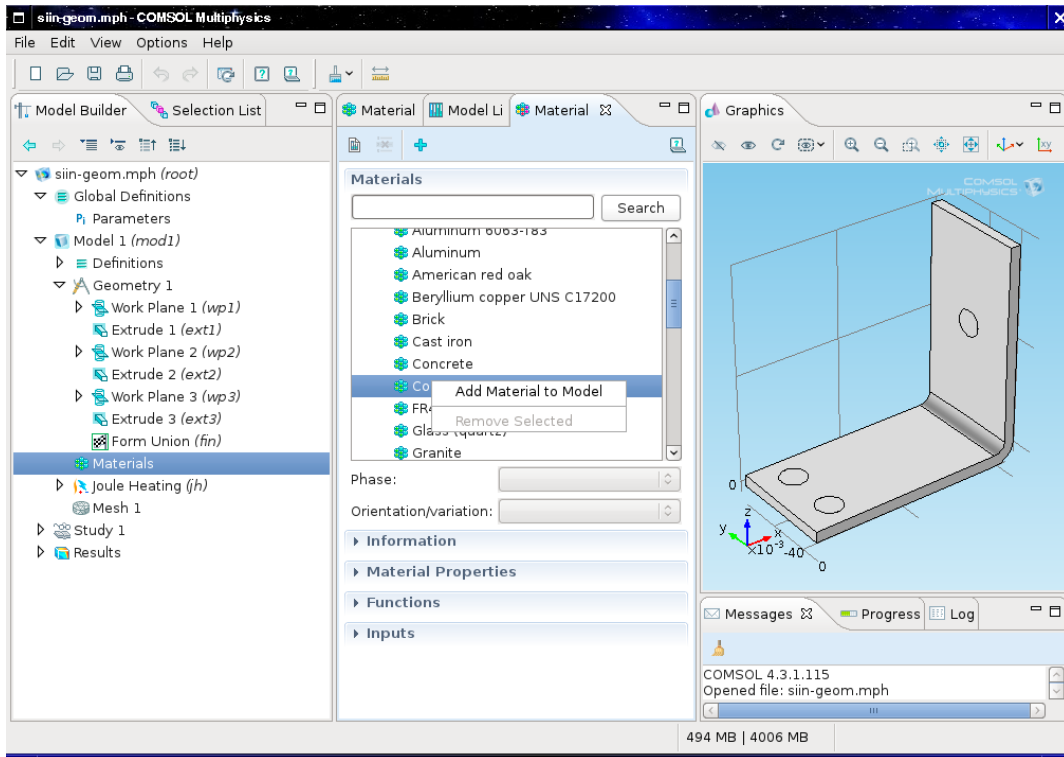

Figure 30: Adding a material.
- 2 **Material Browser** → **Built-In** → **Copper: right button** → **Add Material to Model** (Fig. 30).